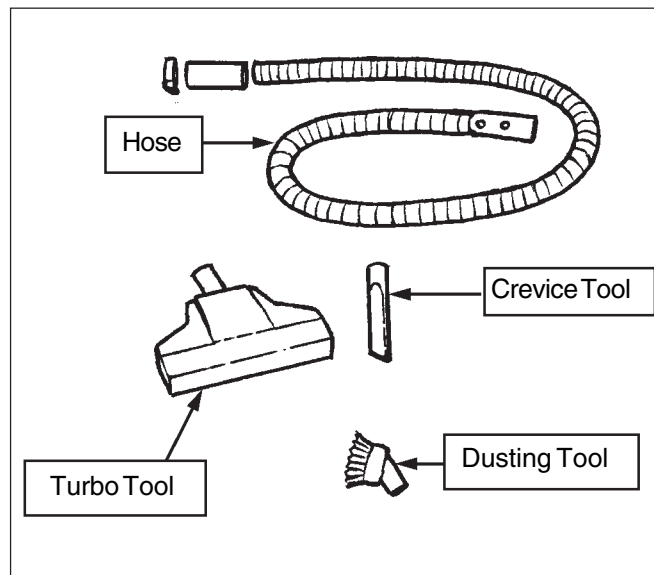

Figure 5
Three on-board tools are available for the vacuum: the dusting tool, crevice tool and turbo tool (figure 5). Twenty (20) feet of hose is provided, which allows access to rooms without moving the machine.